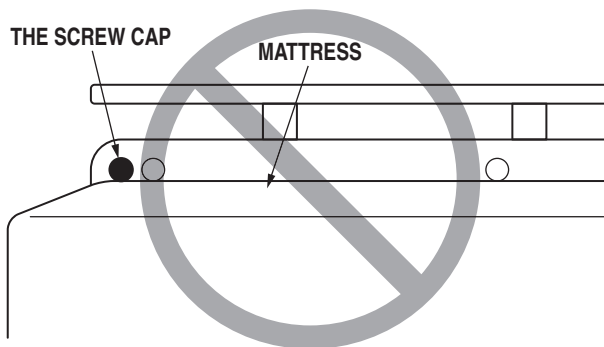

Figure 2-25. Recognize the screw caps
- Install a table board in order not to recognize the screw caps. (Figure 2-25)